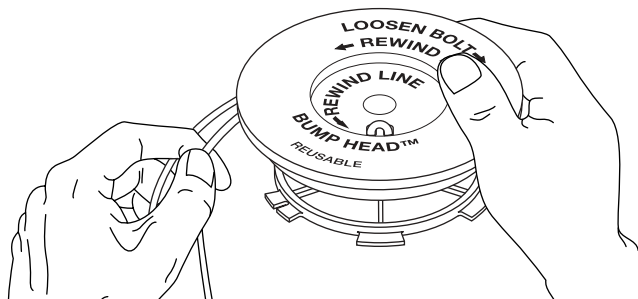

FIGURE 29
7. Wind the lines in tight even layers, onto the reel, Figure 29. Wind the line in the direction indicated on the inner reel. Place your index finger between the two lines to stop the lines from overlapping. Do not overlap the ends of the line. Proceed to step 11.